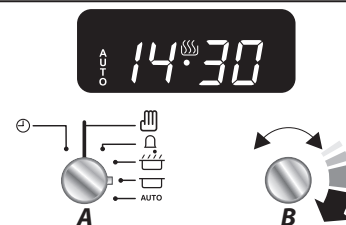

Fig. 3.6
2. Turn the **Adjusting (B)** knob to the amount of cooking time required. The display will show the current time plus the additional cooking time you have set (**Fig. 3.6**).